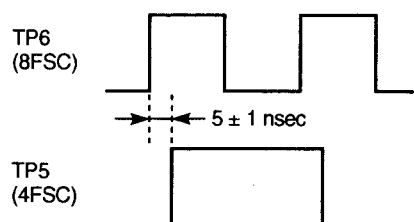

Fig. 5-1-3
- Adjust CT2 to obtain  $5 \pm 1 \text{ nsec}$  as shown in Fig. 5-1-3.